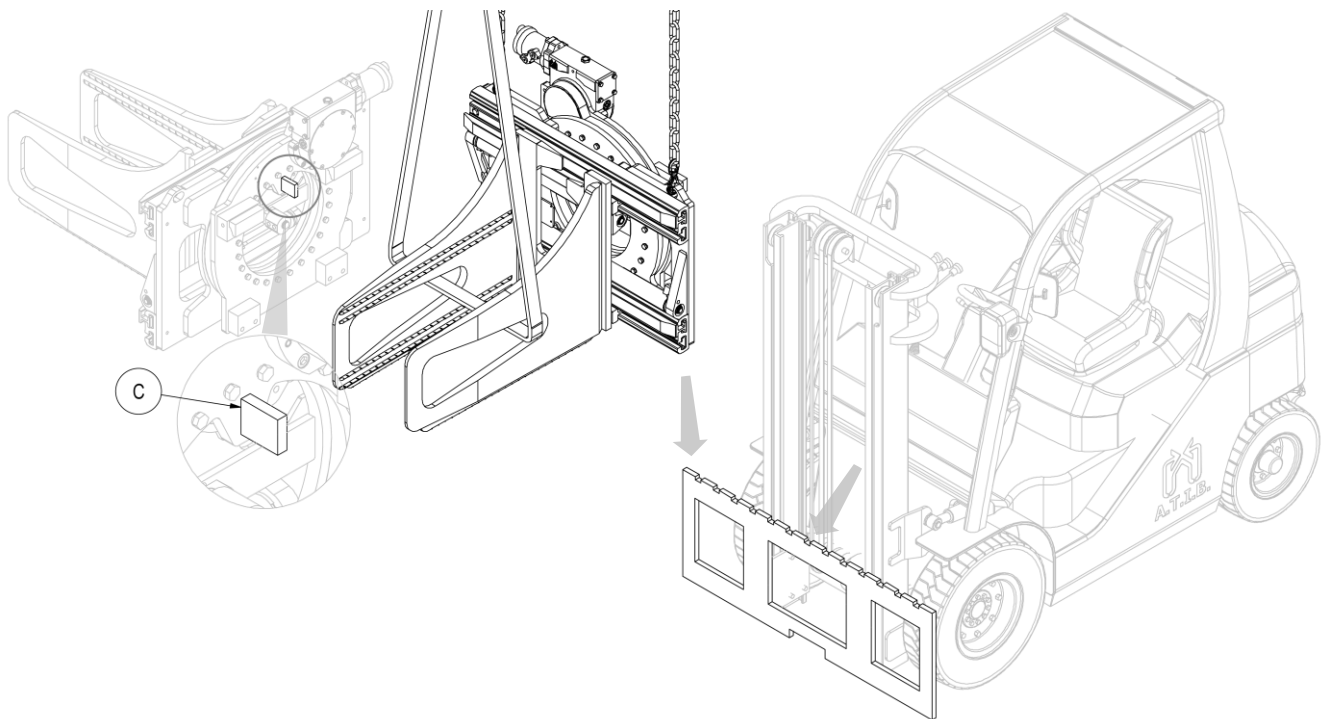

Figure 3
7. Using an overhead crane or hoist of sufficient capacity, place the equipment on the fork carriage, taking care to engage the centring pin **C** in its central notch (see *Figure 3*).